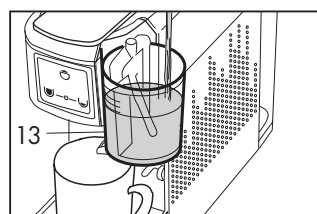

Fig. 13
- Remove the lid of the milk beaker (13) and fill the beaker with milk, taking care not to exceed the level indicated (we recommend a 90 cc dose of milk). (Fig. 13)
- Close the milk beaker (13) with the lid. If the beaker is not closed with the lid, the machine does not work.